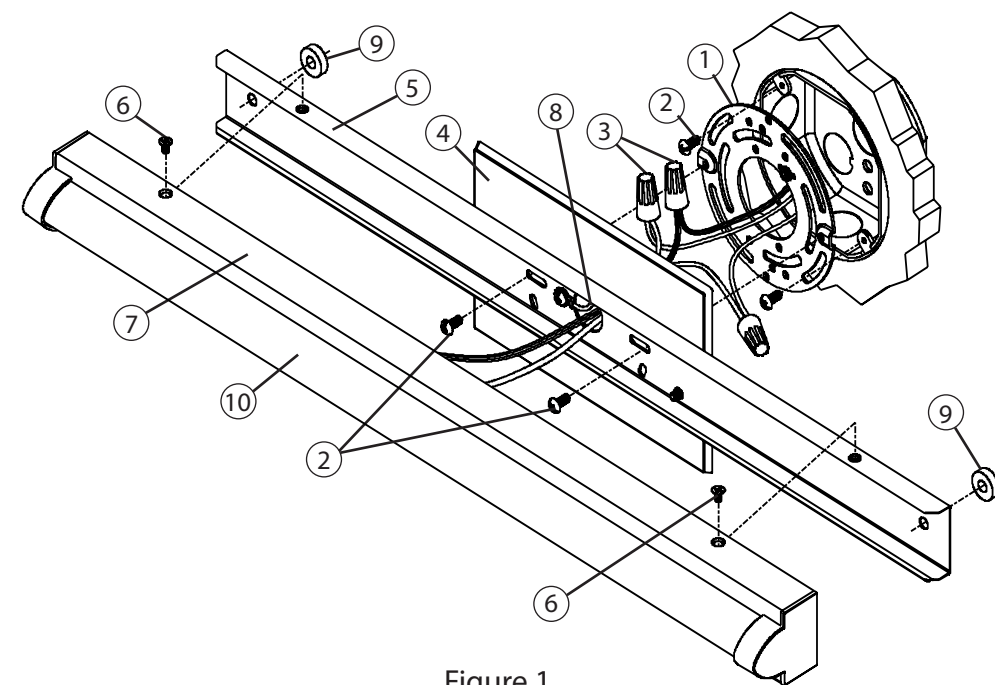

Figure 1
2. Remove two 1/4" Flat Head Screws (6) and separate the Housing Assembly (7) from the Backplate (5). See Fig. 1.